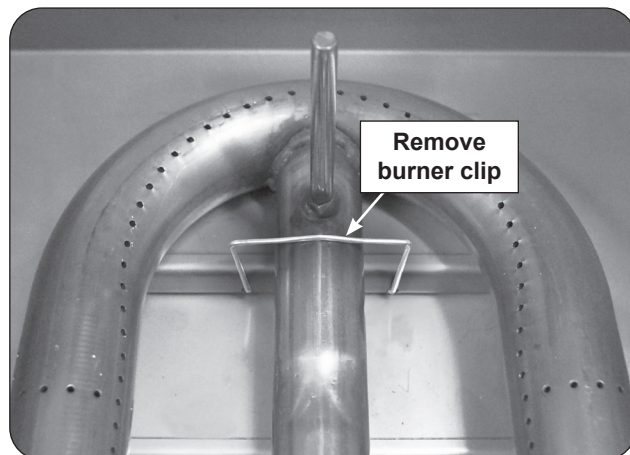

Fig. 44-2 Main burner removal
2. Locate the burner clip (located over the rear center tube of the burner) and slightly pinch and remove the clip from the burner support. See Fig. 44-2.